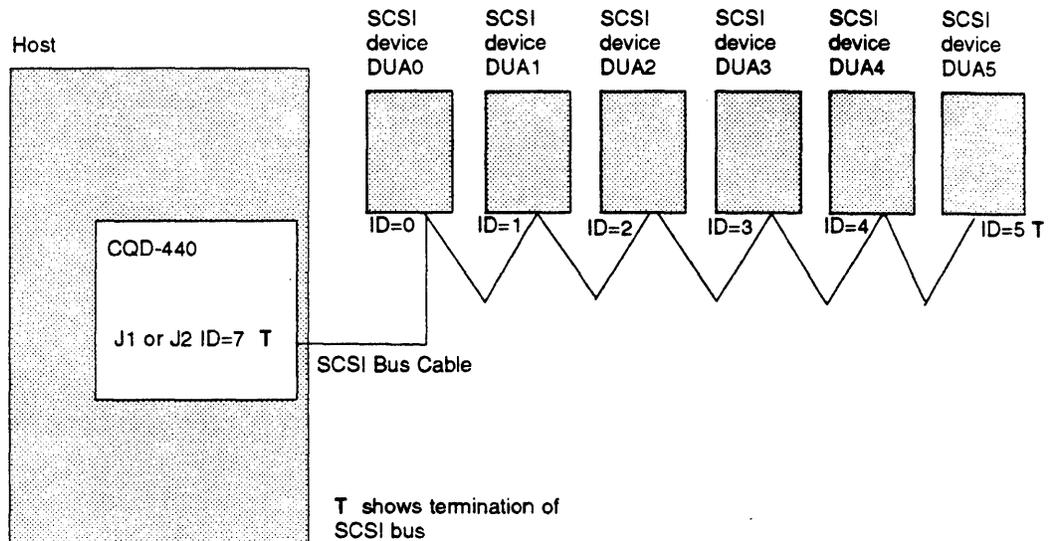

Figure 3-9: SCSI ID and Cabling
- 6 Continue SCSI cabling to connect up to seven SCSI devices to the CQD-440. See the example in Figure 3-9.